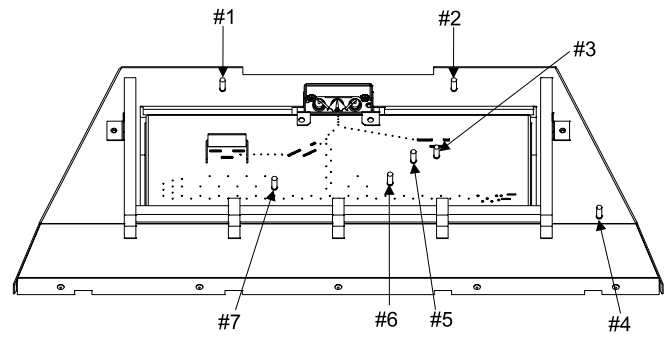

Figure 18
1. Place Rear Log (A) onto burner pins #1 and #2. See Figure 18 for burner pin identification.
- Place Right Log (C) onto the two right pins on (A) log and angled down to sit outside the grate and onto burner pin #4. See Figure 18 for burner pin identification.
- Place Log Chunk (D) onto burner pins #3 and #5. See Figure 18 for burner pin identification.
5. Place Right Center Log (F) onto the two pins on (C) log and burner pin #6. See Figure 18 for burner pin identification.
6. Place Left Center Log (E) onto the two pins on (B) log and burner pin #7. See Figure 18 for burner pin identification.